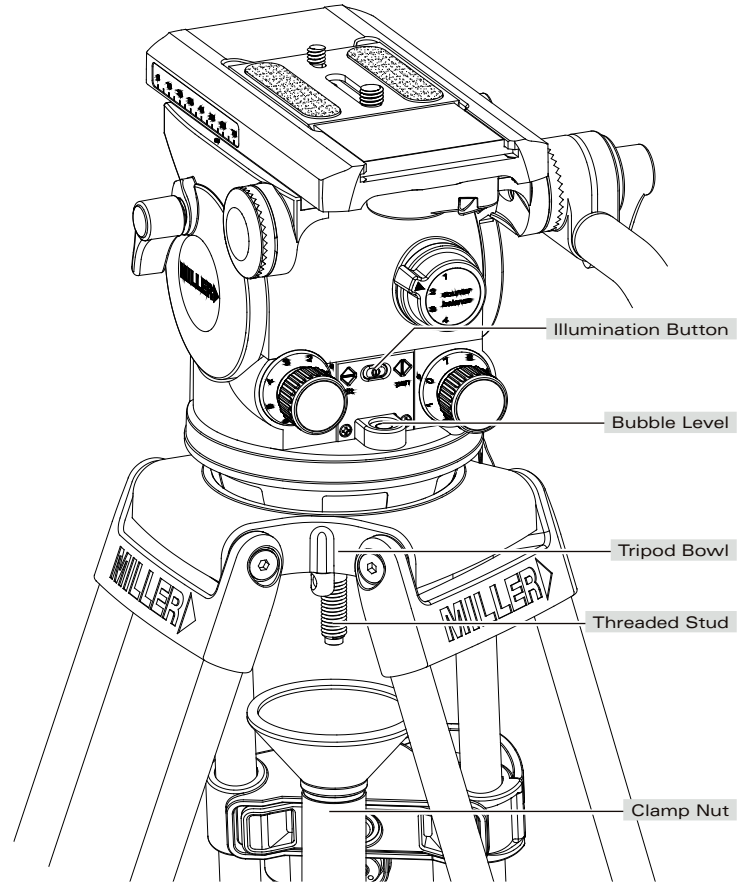

Fig. 5
- 1.1 Loosen the PAN HANDLE CLAMP fully then rotate the PAN HANDLE until it is approximately perpendicular to the THREADED STUD (fig. 5) and tighten the PAN HANDLE CLAMP - avoid contact wear between the serrations on the Fluid Head and the PAN HANDLE CLAMP, if this occurs then unwind the PAN HANDLE CLAMP further.
- 1.2 Ensure that the TRIPOD BOWL is approximately horizontal. Place the Fluid Head into the TRIPOD BOWL, adjust the BUBBLE LEVEL (fig. 5) such that the bubble is inside the black circle and tighten the CLAMP NUT.